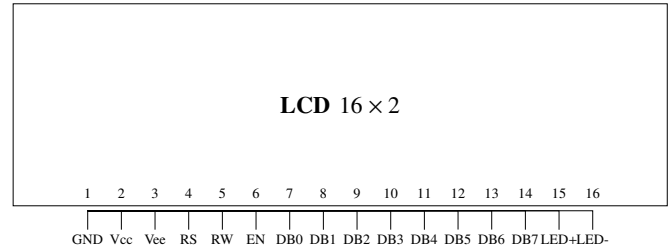

Fig. 2: LCD
- Plug the LCD in Fig. 2 to the breadboard.